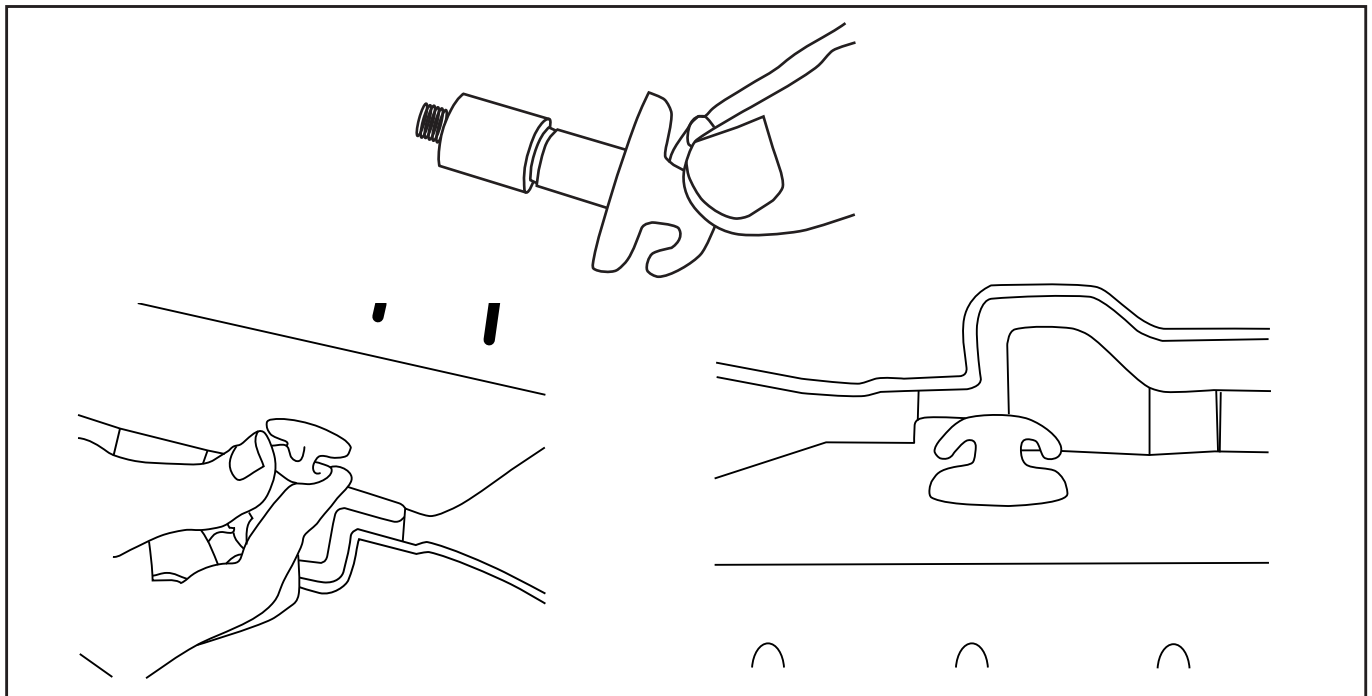

Fig. 9
10. Install hardware assemblies (both sides). Make sure T-anchors are positioned parallel to the load floor (Fig. 9).